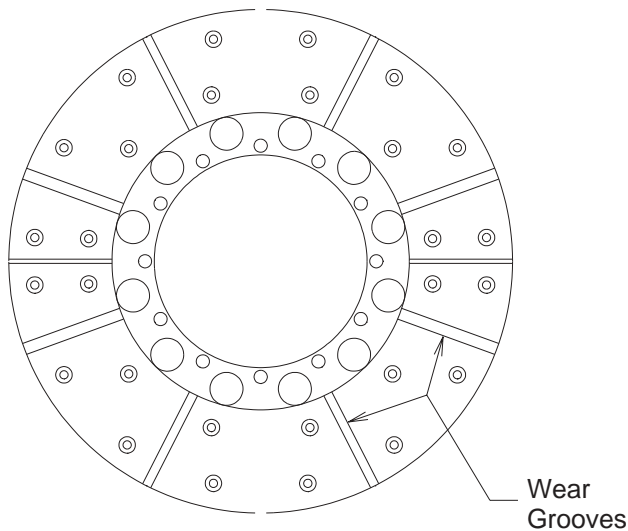

Fig. 7
4.2.1 On both single and multiple disc units, the friction material must be replaced when worn to the bottom of the groove on the friction lining. See Figure 7.